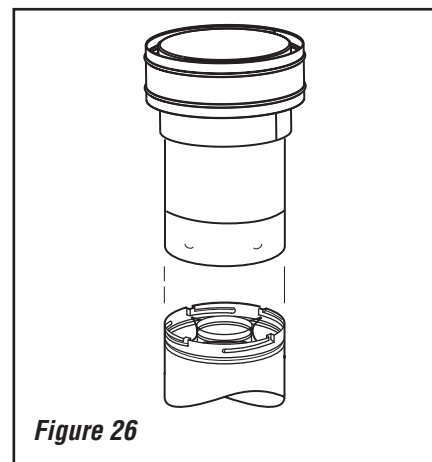

Figure 26
K. Install the vertical termination - The final Step involves installation of the SV4.5CGV-1 Vertical Termination. Extend the vent sections to the height as shown in the "Vertical vent termination section" (*Page 7, Figure 4*). The SV4.5CGV-1 Vertical Termination (*Figure 26*) can be installed in the exact same fashion as any other **Secure Vent** section. Align the termination over the end of the previously installed section, adjusting the radial alignment until the four locking dimples of the termination are aligned with the inlets of the four incline channels of the last vent section. Push the termination down until it fully engages, then twist the termination clockwise running the dimples down and along the incline channels until they are seated at the end of the channels.